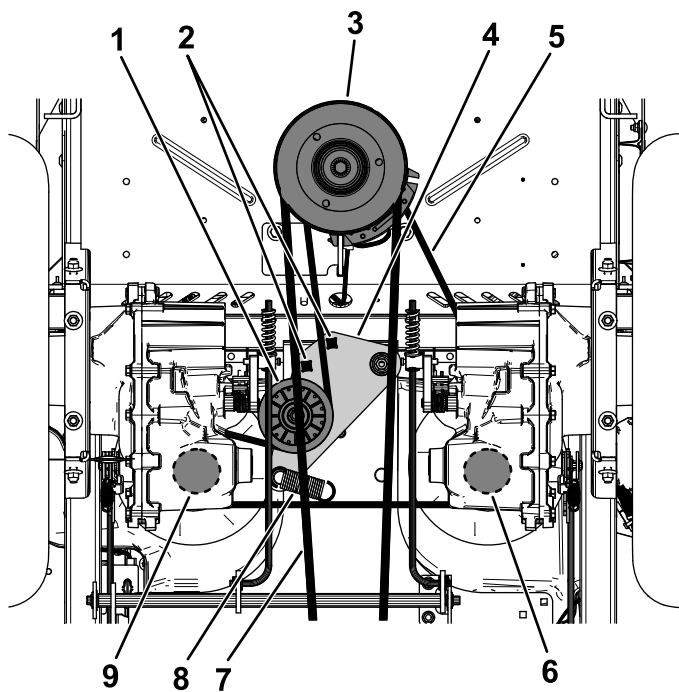

Figure 63
5. Use a 1/2-inch ratchet or breaker bar in one of the square holes in the idler arm to remove tension on the idler spring (Figure 63).
6. Remove the existing belt from the idler pulley, 2 hydraulic-pump-drive pulleys, and engine pulley (Figure 63).
7. Install the new belt around the idler pulley, engine pulley, and 2 hydraulic-pump pulleys (Figure 63).